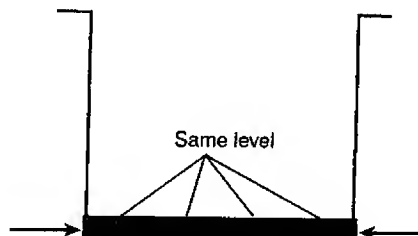

Figure 6. Sub Color
9. Set the data with numeric keys 7 - 2 for waveform shown in Figure 6 (Flat Waveform).